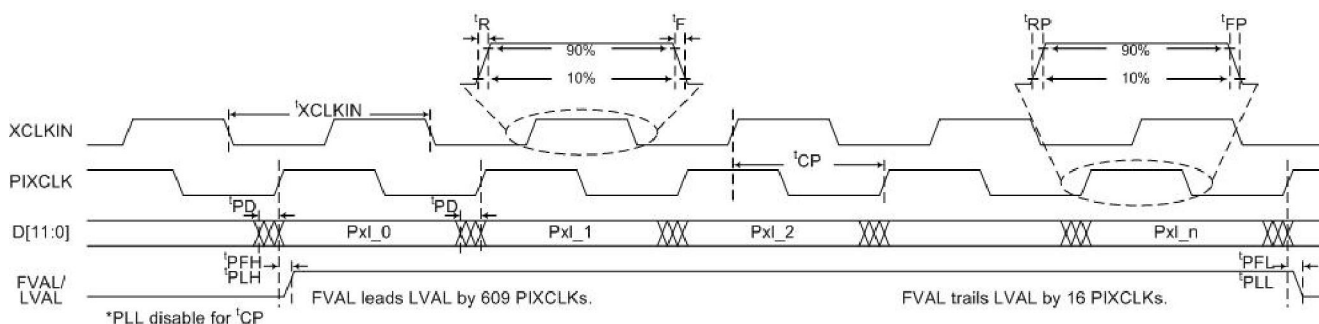

Figure 4-2 I/O Timing Diagram
See Figure 4.2 and Table 4.2 for I/O timing (AC) characteristics.